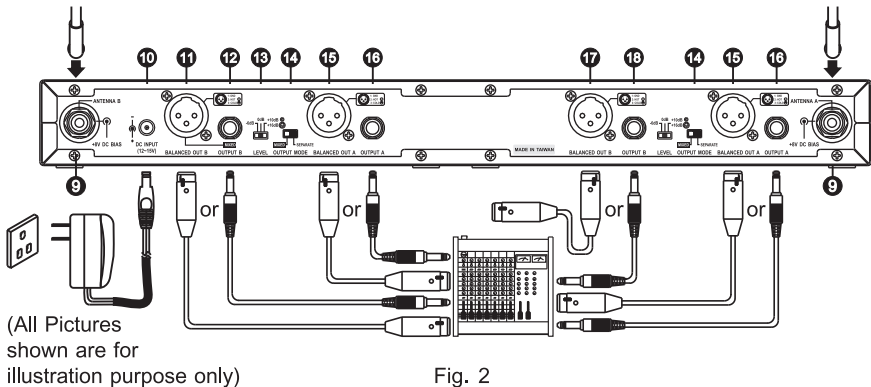

Fig. 2
1. **Antenna Connection:** Connect an antenna to each of the antenna connectors ❹ on the rear panel. Fig. 2. Antenna connectors provide an 8-volt DC bias to work with MIPRO antenna boosters. If the antenna cable is longer than 10 meters, it is advisable to install an antenna booster to ensure optimal reception.
2. **Power Connection:** Connect the power supply to the receiver DC input ❿ and plug it into an AC power source. Fig. 2.
- (A) When connecting the audio output to the MIC IN jack of the mixer or amplifier, switch output level switch ⓫ to 0 dB. When connecting to LINE IN jack, set output level switch to +16 dB when using balanced XLR connector or set output level switch to +10 dB when using unbalanced (6.3 Ø) connector. When connecting to an amplifier with non-standard gain, set output level switch to -6 dB when there is distortion at the maximum output level.
- (B) Output for electric guitar/bass: Use a 6.3 Ø phone cable. One end to receiver's unbalanced output jack and the other end to guitar/bass amplifier's input jack. Switch the output level to the "+10 dB" position.
- (C) Use an XLR cable to connect the receiver audio output jacks ⑪⑮⑰ to a mixer or an amplifier's MIC IN jack.
- (D) Use a PHONE cable to connect the unbalanced phone jacks ⑫⑯⑱ to a mixer or an amplifier's LINE IN jack.
- (E) To mix the multiple channel outputs, connect to the mixed output jacks ⑩ or ⑬ and switch the output switch ⑭ to the MIX position.